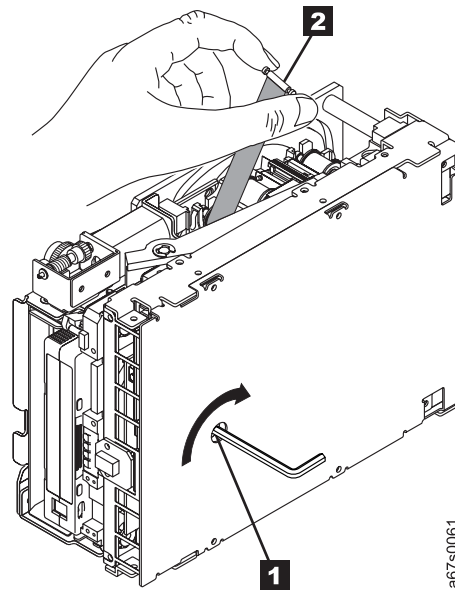

Figure 163. Rewinding the leader pin into the tape cartridge
1. Place the tape drive so that the front faces you, then tilt it on its left side (see Figure 163 on page 275).
3. If necessary, use needle-nose pliers to grasp the end of the leader pin and pull it out of the cartridge so that you can grip it with your fingers (see **1** in Figure 163 on page 275).